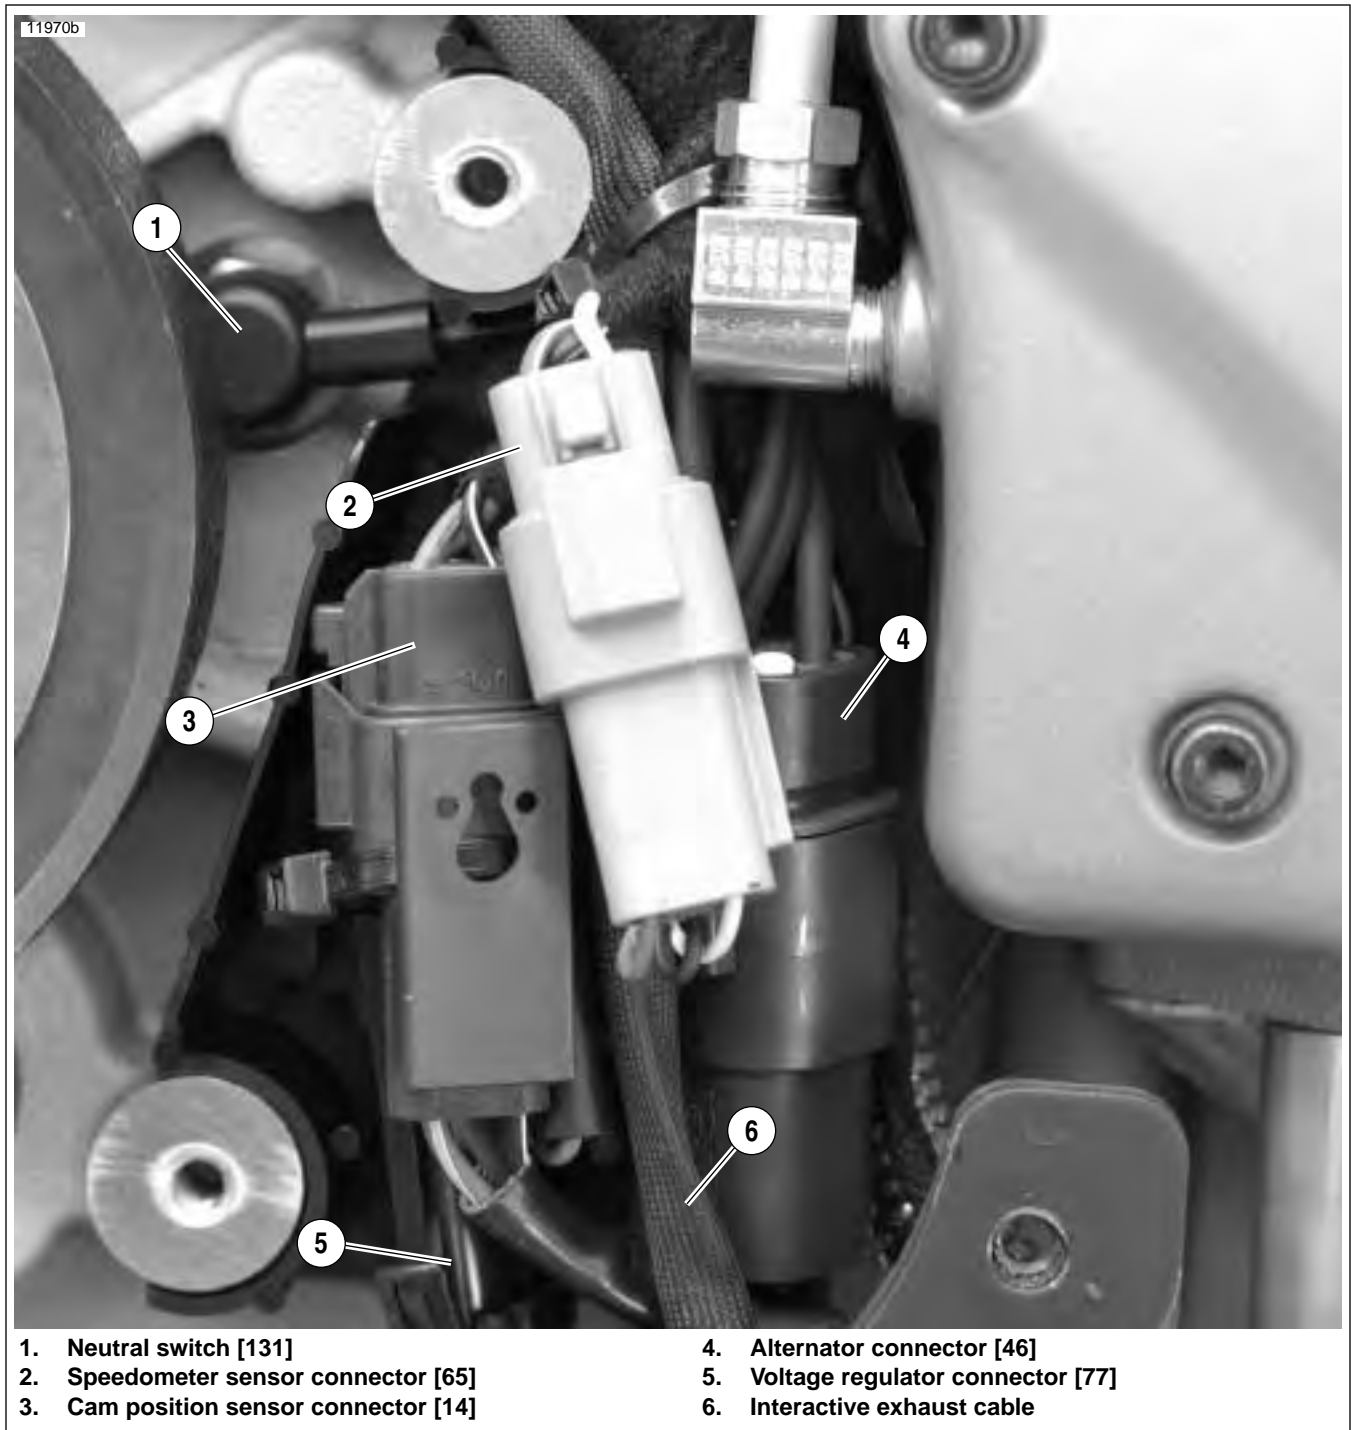

Figure 3-18. Electrical Connectors Under Sprocket Cover
23. See Figure 3-18. Disconnect electrical components: